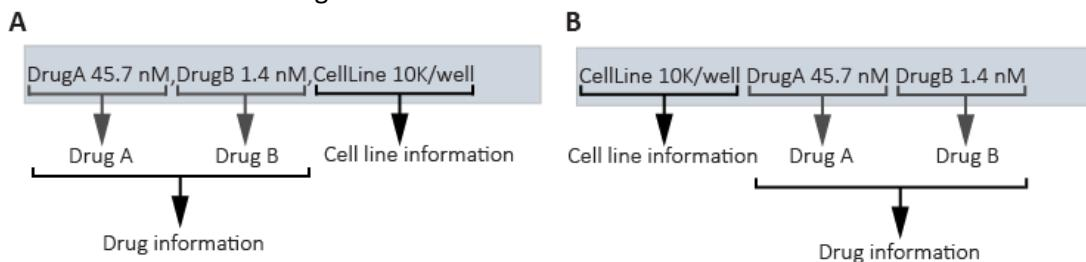

Figure 12: Example of different ways to annotate conditions. A) information separated by “,”. B) information separated by space.
- In this case the cell line information must be in the first position followed by all drug information Figure 12-B.